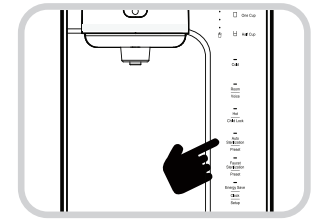

Fig. 12
1. Press the Energy Save/Clock (Setup) button for three (3) seconds in the Waiting Status. The Voice Guide will say "selecting user setting mode" "user setting mode, please set function by pressing the illuminated button".
2. Select the Cold Water Circulating Pump function by pressing the Automatic Sterilization/Preset button. (Fig. 12).